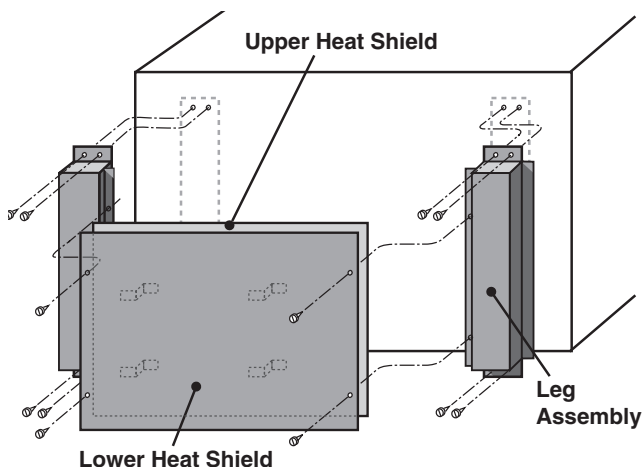

Fig. 1 Leg & Heat Shield Assembly
4. Place both legs upside down and attach the heat shield assembly (from step 4) between the legs. Align the holes in the heat shield assembly with those in the mounting flange of the leg assemblies and secure with four (4) self-tapping screws.
5. Attach leg/heat shield assembly to the base of the stove using eight (8) self-tapping screws (fig. 1).